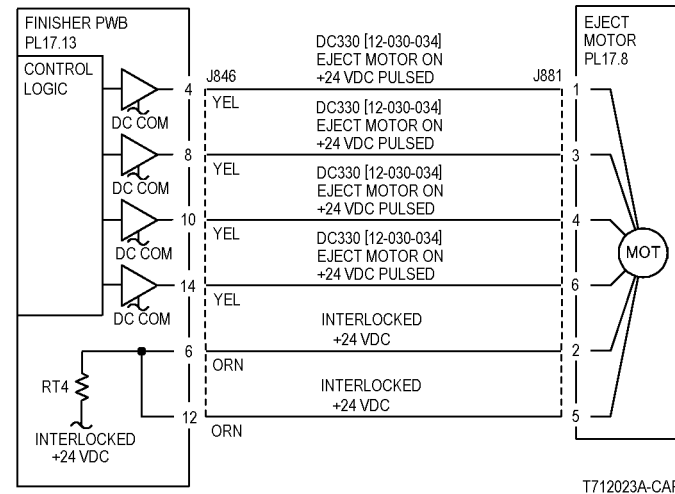
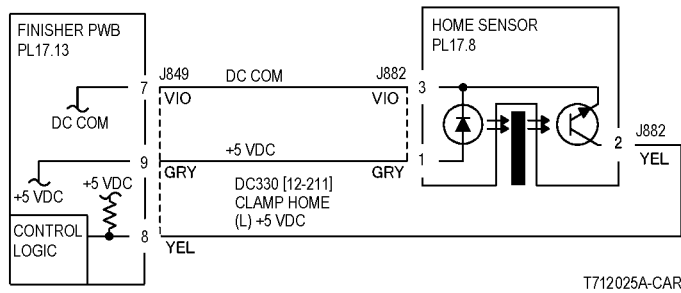

Figure 4 Eject Motor CD
Figure 2 Set Clamp Home Sensor
- Ensure that the connectors shown in the circuit diagrams (Figure 2, Figure 3, Figure 4) are securely connected and that the wires are not damaged.